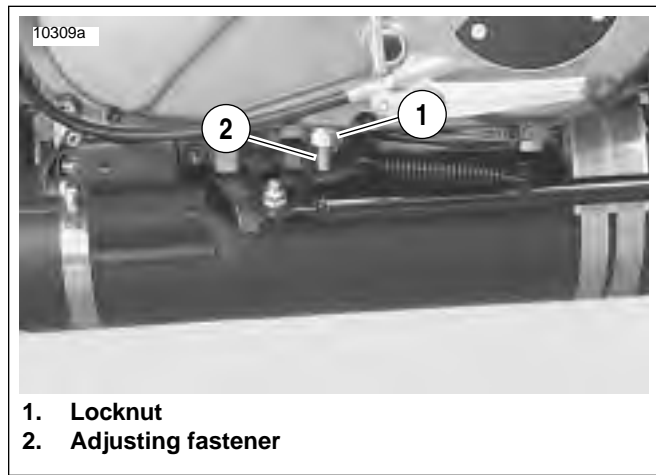

Figure 1-29. Chain Tension Adjusting Fastener (Typical)
1. See Figure 1-29. Loosen locknut (1).
2. Turn adjusting fastener (2):
3. Tighten locknut (1) to 20-25 ft-lbs (27-34 Nm).